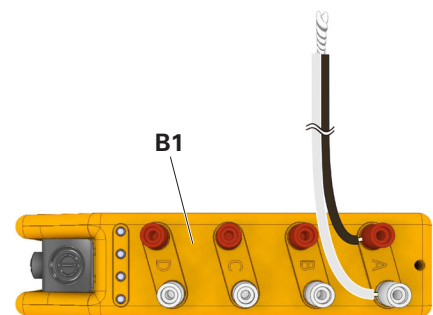

Fig. 03 Node connection
5. Fit the ISC node (B1/ Fig. 03) close to the measuring points outside the formwork in a safe and secure manner.
8. Connect the wires to an analogue multifunction channel of the node. (Fig. 03)